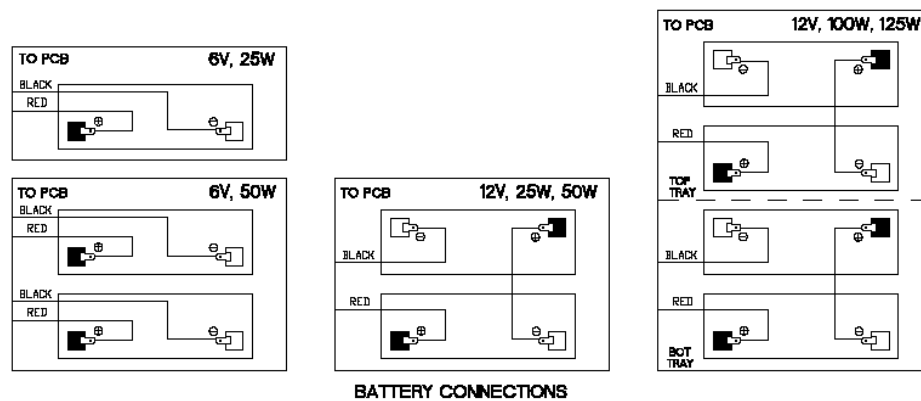

Figure 5
5. Connect Battery leads to the battery or batteries (See Figure 5).